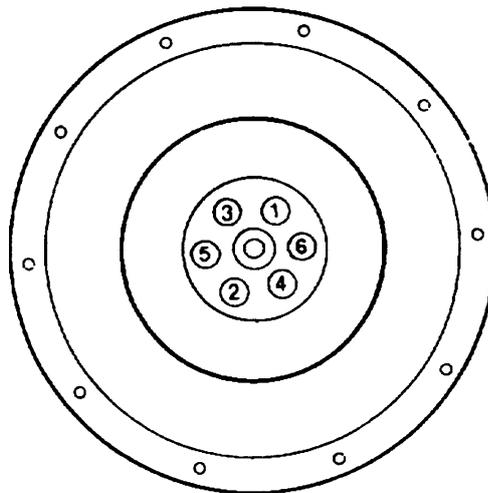

Figure 36 Flywheel - Tightening Sequence
- Install the flywheel and secure in position with the retaining bolts. Torque the bolts to 142 to 170 N.m (105 to 125 lbf.ft) in sequence (Figure 36).